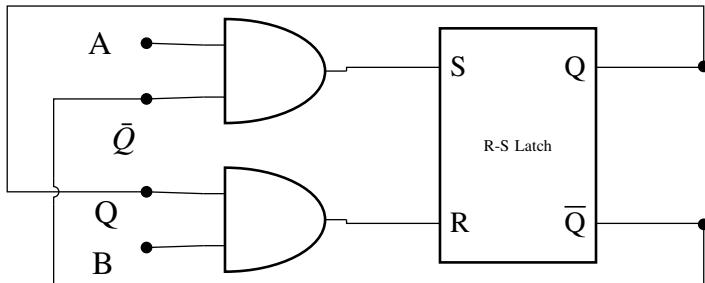

Fig. 3.31
49. The two inputs A and B are connected to an R-S latch via two AND gates as shown in Fig. 3.31. If  $A = 1$  and  $B = 0$ , the output  $Q\bar{Q}$  is